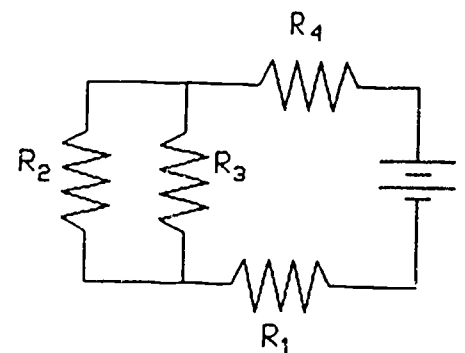

FIGURE 2
4. Fill in the chart using the schematic drawing (Figure 2) and your knowledge of Ohm's and Joule's Laws. Hint: Use fractions.